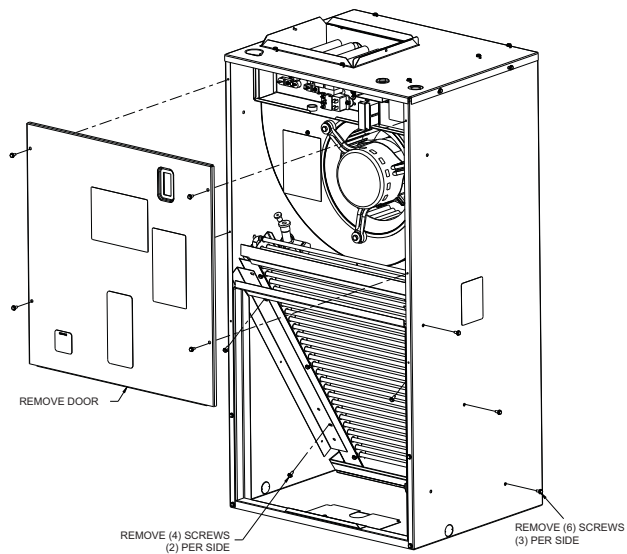

Fig. 4 – Remove Screws – Door & Coil Assembly
6. Remove four (4) screws securing coil to coil supports. (See Fig. 4)
10. Install new coil assembly into unit and secure with four (4) screws previously removed from unit coil supports. (See Fig. 4)